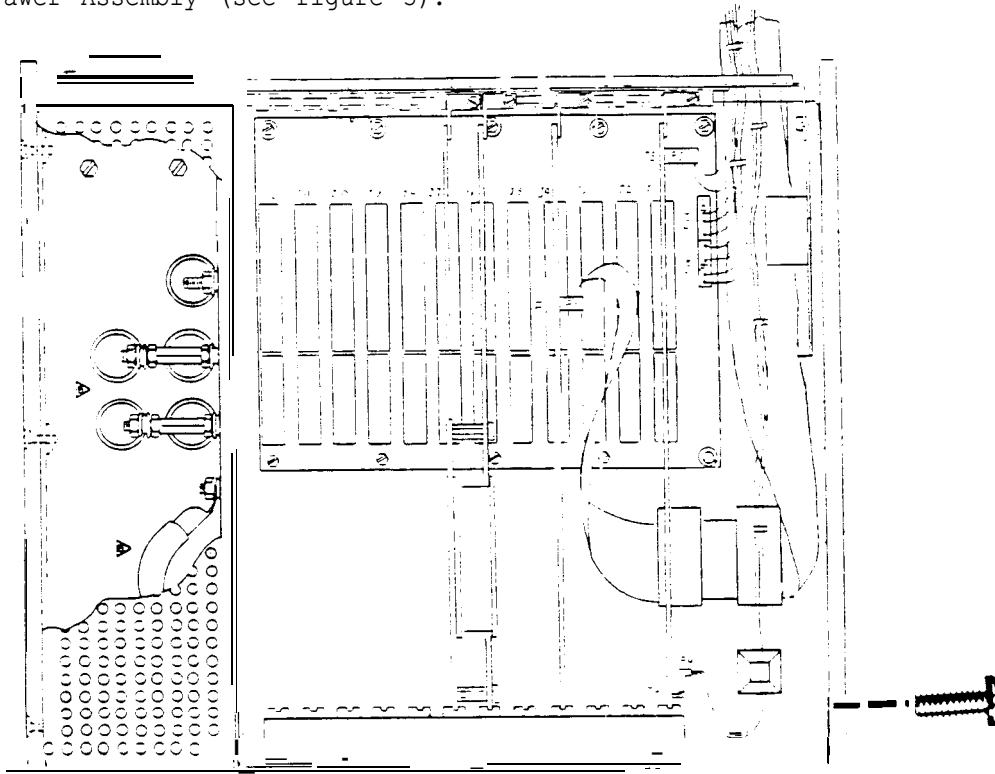

Figure 3. Location of new screw, #0403-1451-08
19. Remove the rails from the old Drawer Assembly and reinstall them on the new Drawer Assembly. Use the new screw, #0403-1451-08 to secure the Computer Drawer's left hand rail (as viewed from the rear of the drawer) innermost mounting hole instead of the screw used on the old Computer Drawer Assembly (see figure 3).